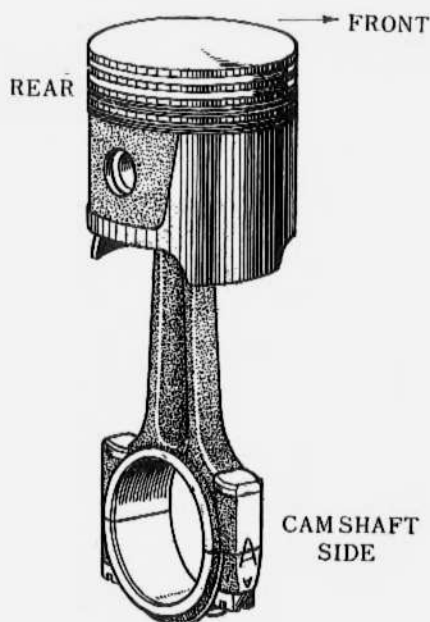

Figure 97 - Piston and Connecting Rod
(4) After pull out vinyl tubings from connecting rod bolts, install the bearing cap with the marked side toward the camshaft (Fig. 97). Assemble and tighten the bearing cap nuts to 45~55 foot-pounds torque. And then install cotter pin.
(5) Install remaining piston and connecting rod assemblies as described above.
(6) Adjust connecting rod bearings.